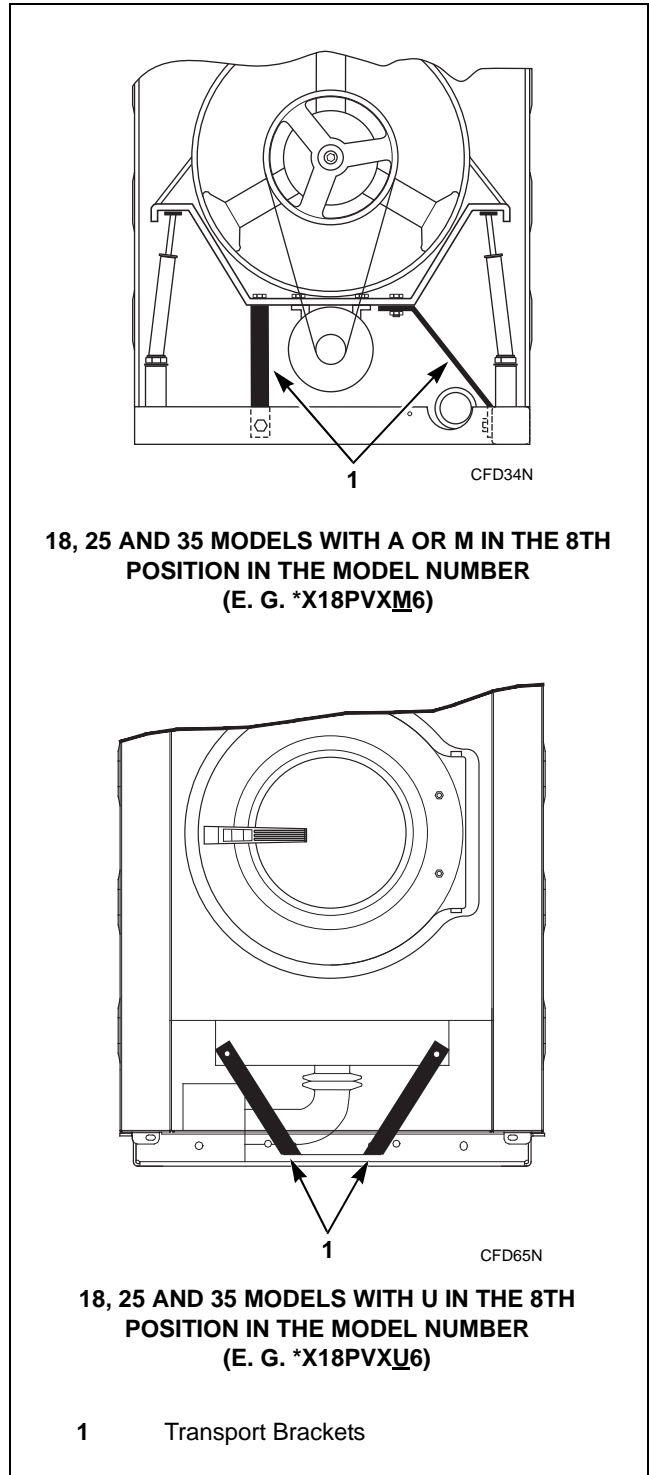
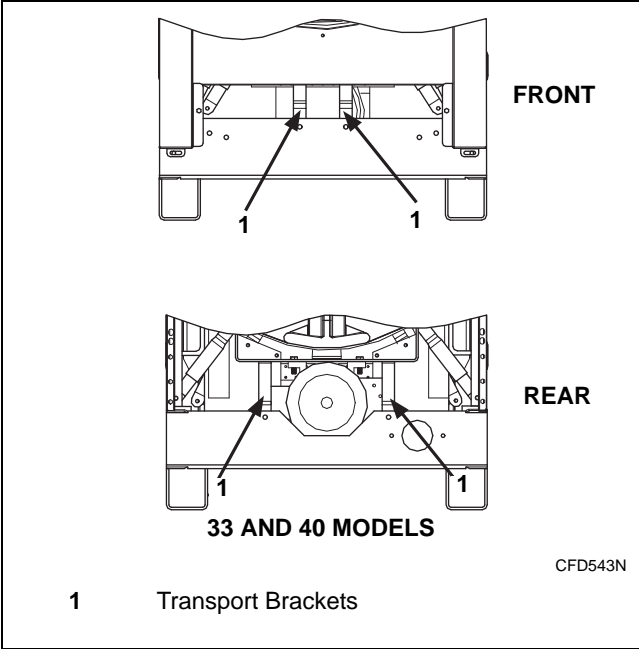
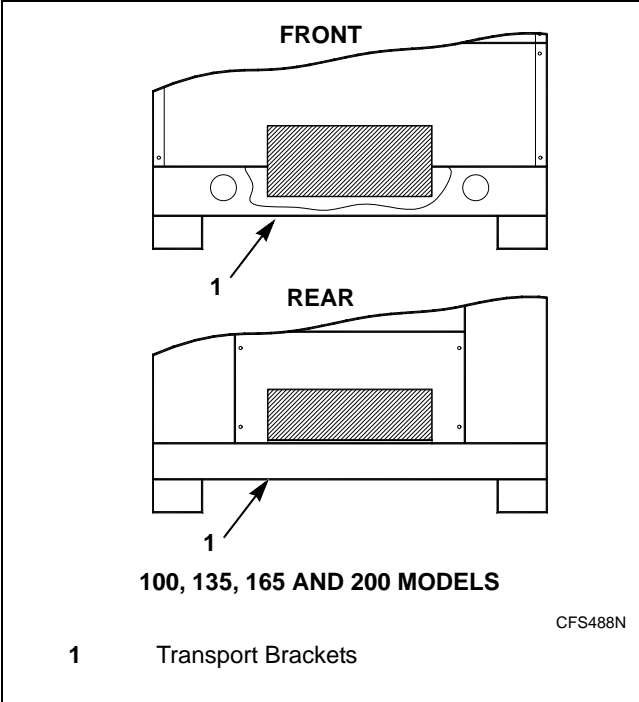
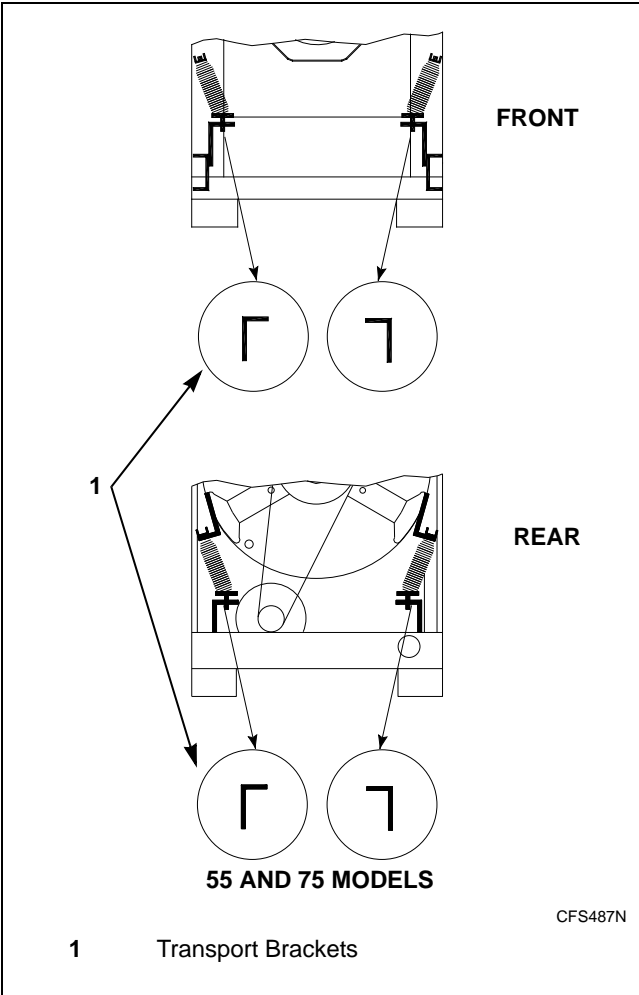

Figure 29
Figure 30
Figure 32
Figure 31
8. Remove the four red transport brackets which secure the moving components of the machine during shipping. Refer to *Figures 29, 31* and *32* for typical transport bracket locations.
To prevent damage during transportation, the machine has been equipped with four red transport brackets (refer to *Figure 29* for 18, 25 and 35 models; refer to *Figure 30* for 33 and 40 models; refer to *Figure 31* for 55 and 75 models [depending on model number]; refer to *Figure 32* for 100, 135, 165 and 200 models) to eliminate every possible movement of the tub.